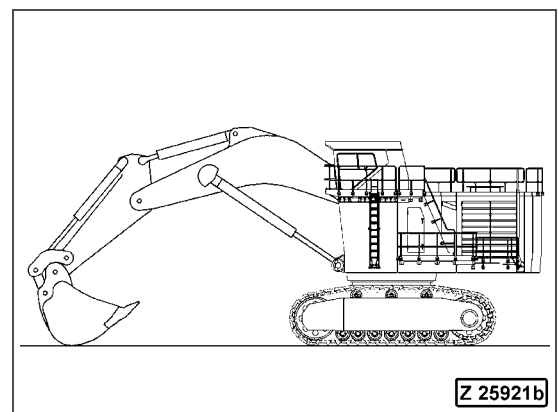

Fig. 5-68
2. Park the machine on the prepared flat area and position the bucket on the ground with the bucket cylinders in fully extended and the stick cylinders in fully retracted position (Fig. 5-68).